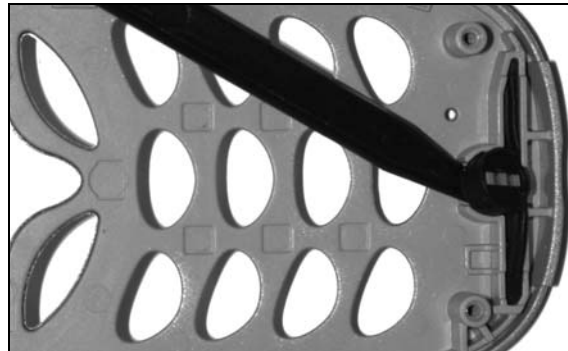

Figure 7-13.
1. Insert pointed end of Stick under the sealing face of the mic (see Figure 7-13).